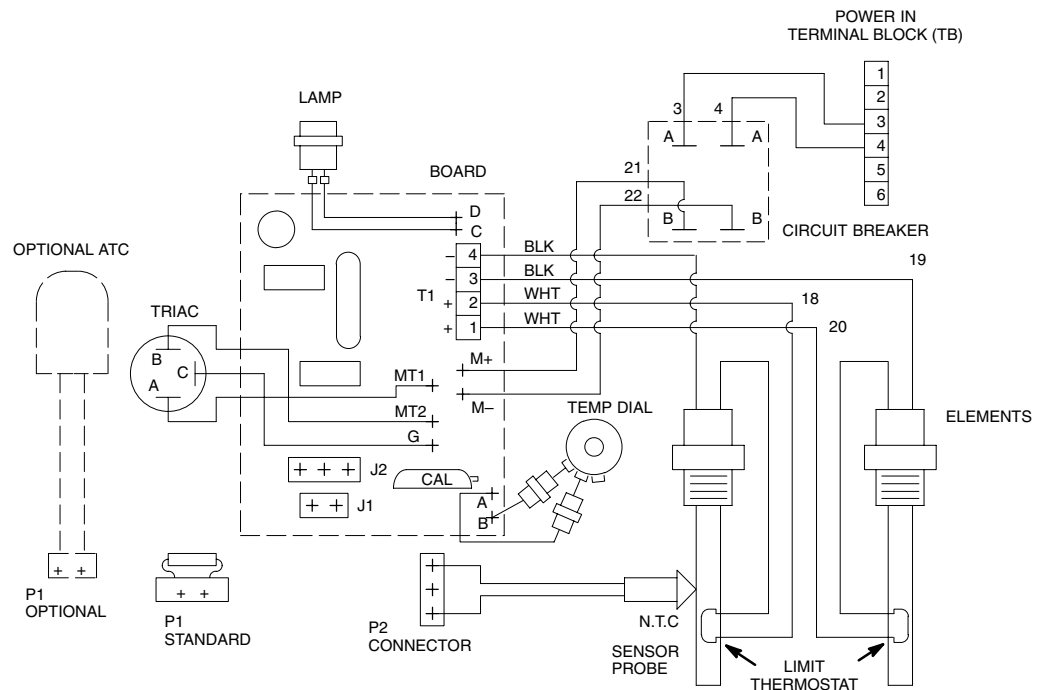

Fig. 10
1. Measure the incoming voltage on the junction box power in terminal block from pins 1 to 2, pins 3 to 4, and pins 5 to 6. See Fig. 10 or 11, pages 21 and 23. Voltage must read 200 to 240 VAC rms between each set of pins.
| | TEMP SET dial wires not connected | Check wiring. See Fig. 10, page 21. |
3. Unplug the connector P1 at position J2 on the heater circuit board in question. See Fig. 10.
2. To check continuity from inside the wiring junction box, remove the wires from connector T1 and check continuity across the wires. See Fig. 10.
Heater No. 235840 is shown in Fig. 10. The wiring for Heater No. 235839 is identical except the second set of elements (wires 9, 10, 19, 20) are not used.
3. Unplug the connector P1 at position J1 on both heater circuit boards and the hose circuit board. See Fig. 10 and 11.
4. Check the resistance across wires 7 and 8, and 9 and 10, on the RES board. Check the resistance across wires 17 and 18, and then 19 and 20 on the ISO board. The resistance should be as follows. If an open conditions exists, check the hi-limit thermostat. See Fig. 10, page 21.